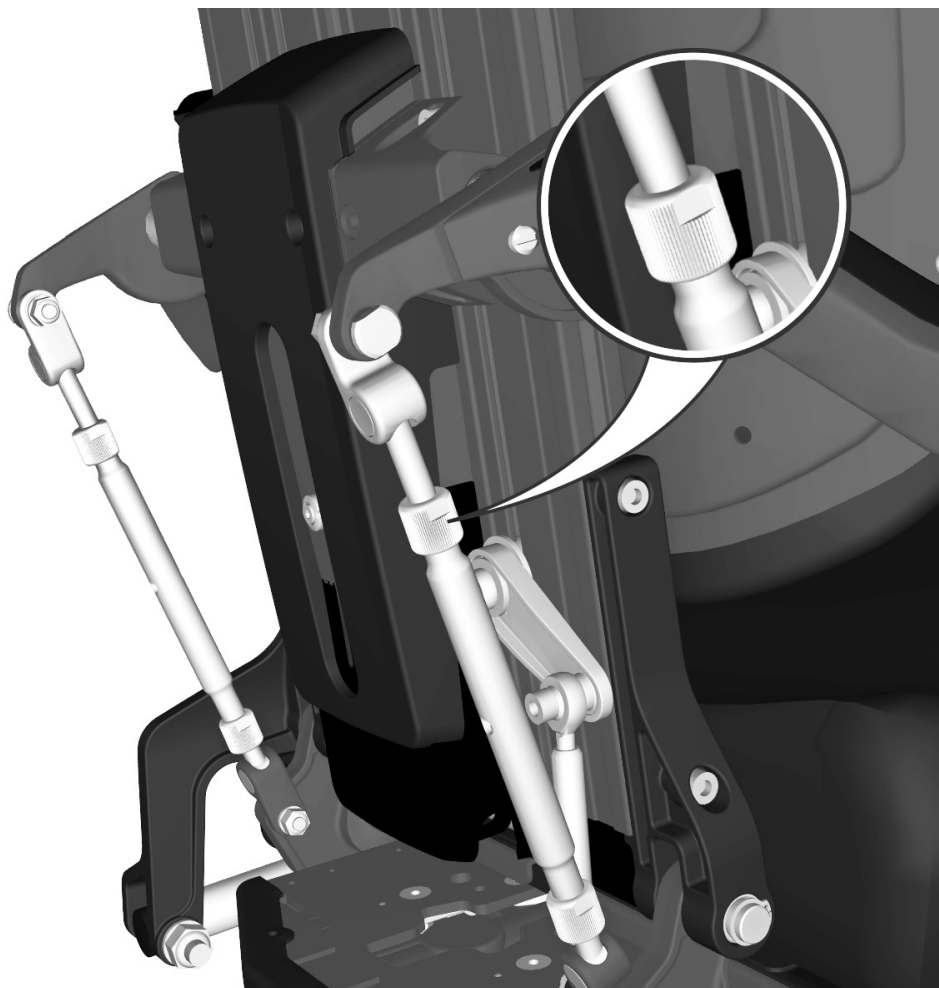

Figure 254. Adjust the armrest angle by turning the adjustment bars. The position of the adjustment bars are fixed by a check-nut
1. Loosen the check-nut on the adjustmentbar in question. See fig. 254.
2. Adjust the armrest angle by turning the adjustment bars. See fig. 254.
3. Fix into desired position by tightening the check-nut. See fig. 254.